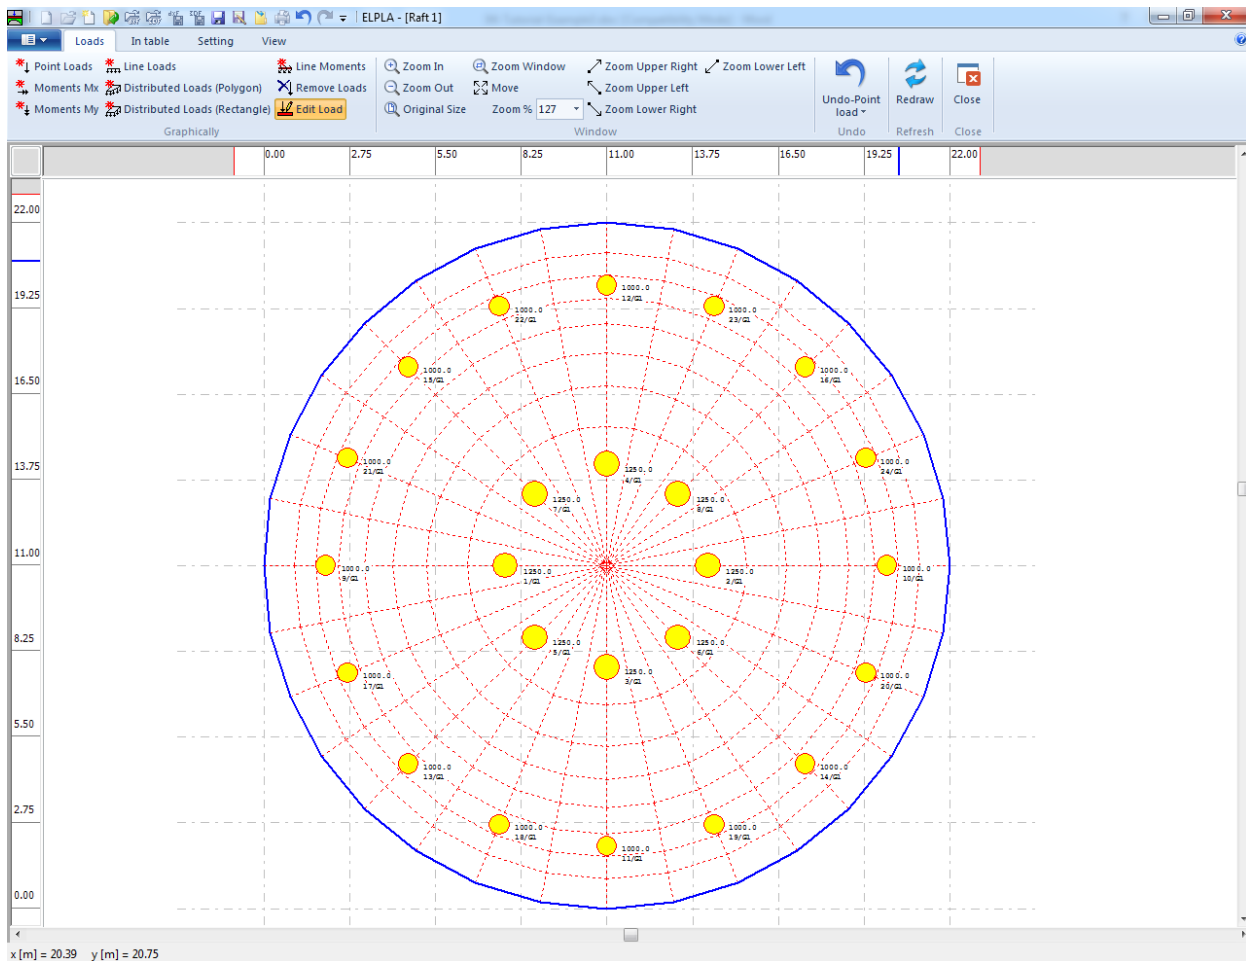

Figure 3.25 Loads
After you have completed the definition of all load data, the screen should look like the following Figure 3.25.
- Choose "Save" command from "File menu in Figure 3.25 to save the load data
- Choose "Close" command from "File" menu in Figure 3.25 to close the "Loads" Window and return to the main window